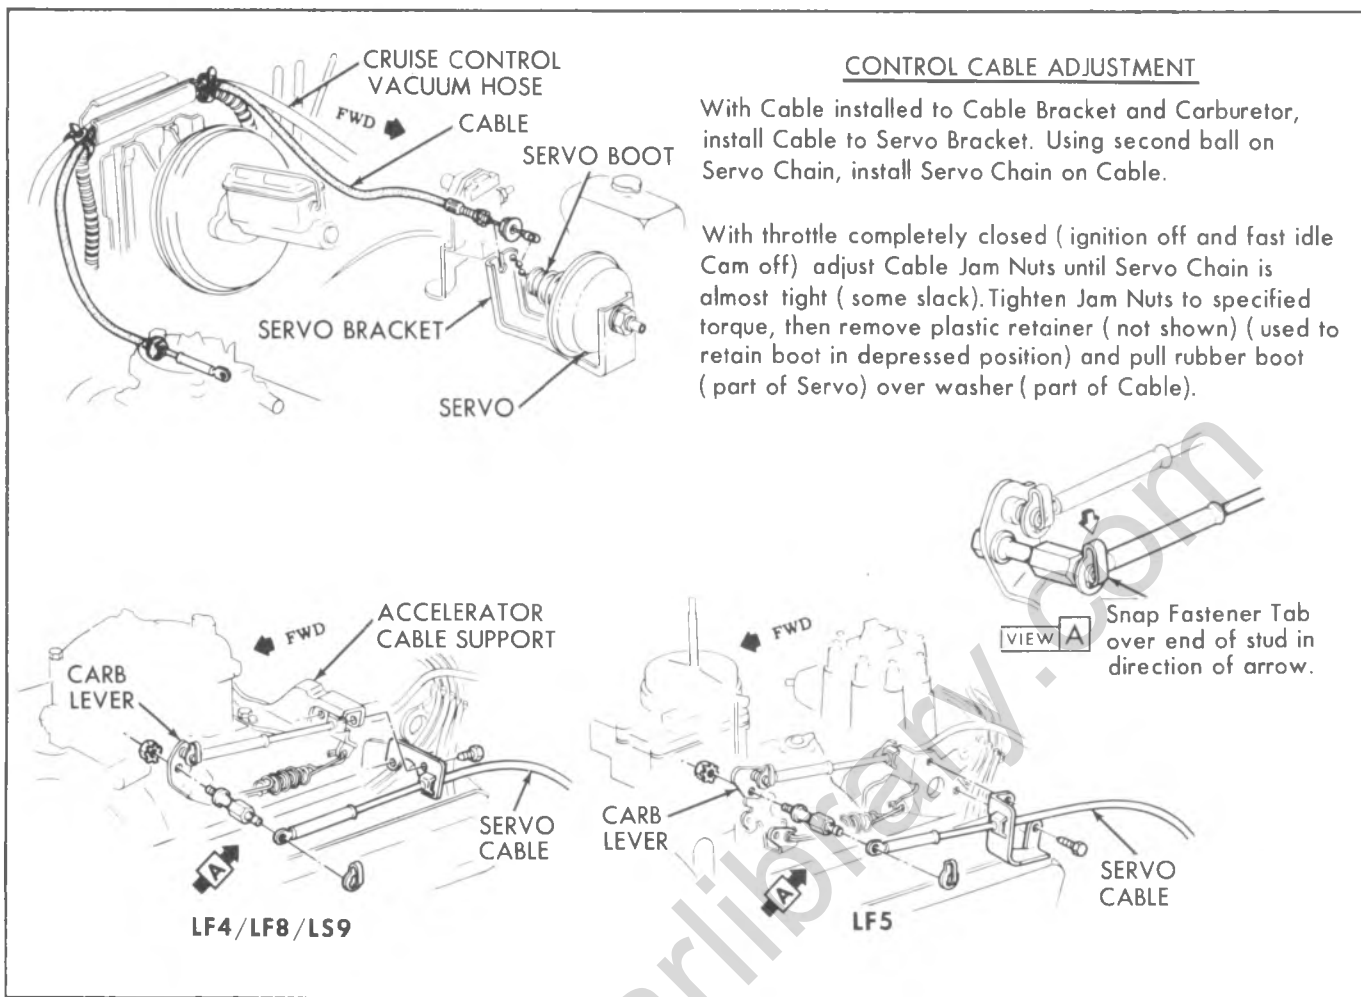

Fig. 9-7C-Servo Composite (C-K Trucks)
SERVO UNIT (FIG. 9-7C)
Before adjusting the Servo Cable, make sure the carburetor is set at its lowest idle throttle position by manually setting the fast idle cam at its lowest step with the ignition switch "OFF". Adjust the cable so there is as little lost motion at the Servo as possible (Fig. 9-7C).
6. Adjust the servo cable as outlined in Figure 9-7C.